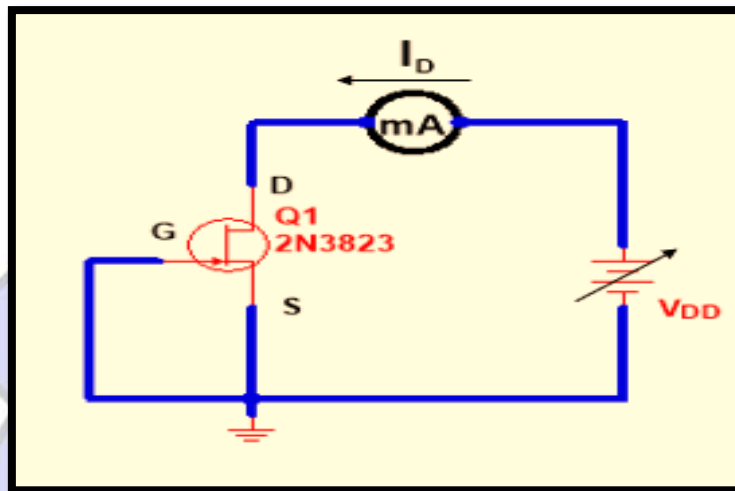

Figure 4: Test Circuit for Measuring  $I_{DSS}$
The voltage gain of the amplifier can be derived from the equivalent circuit of Fig.4:
1. Connect the test circuit shown in Fig.4 to measure  $I_{DSS}$ . Increase the supply voltage until  $I_D$  no longer increases. This level of drain current is recorded as  $I_{DSS}$ .